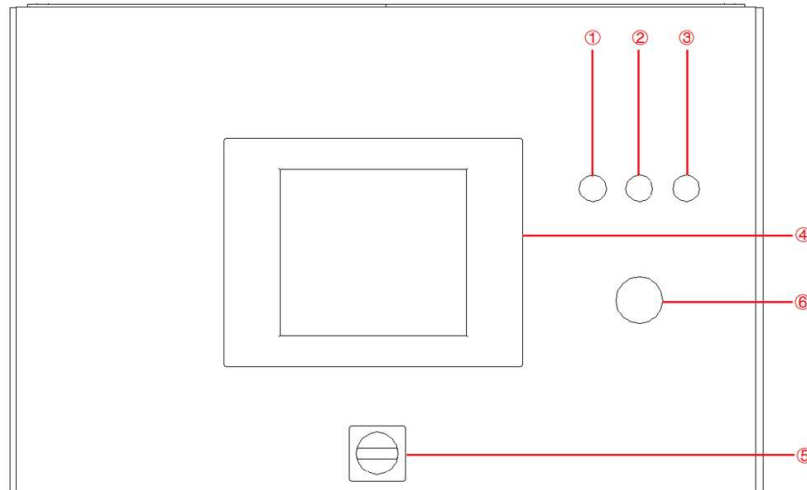

Figure 3-3 Front Panel
Turn clockwise to close the control switch on front panel (figure 3-3⑤) after closing the cabinet door, the power supply is standby. If the power supply communication connection is normal, the white light is always on (figure 3-3①).
A few seconds after the power is initialized, the control unit and touch screen work, the power supply is standby. If the power supply communication is normal, the white light (Figure 3-3①) is always on. If the communication connection is normal, the communication status indicator on the software panel will display "Conn" (Figure 3-4). If the communication connection is abnormal, the communication status indicator will display as "DisConn" (Figure 3-5).